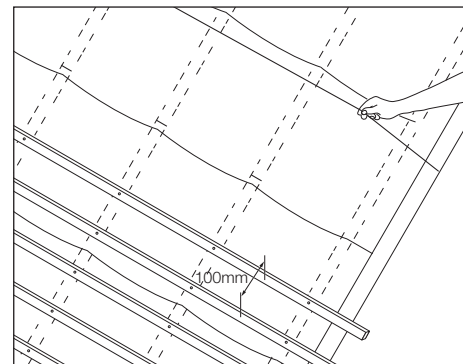

Fig. 4 – Striking chalk lines
- 1 Strike a chalk/ochre line at 90° to perpendicular line (Fig. 4).